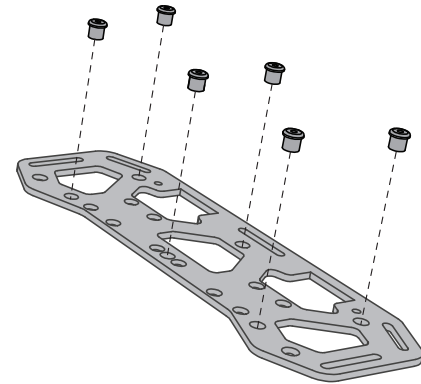

Figure 5. Install Rubber Grommets
2. Install six Rubber Grommets to each Cargo Rack as shown in **Figure 5**.